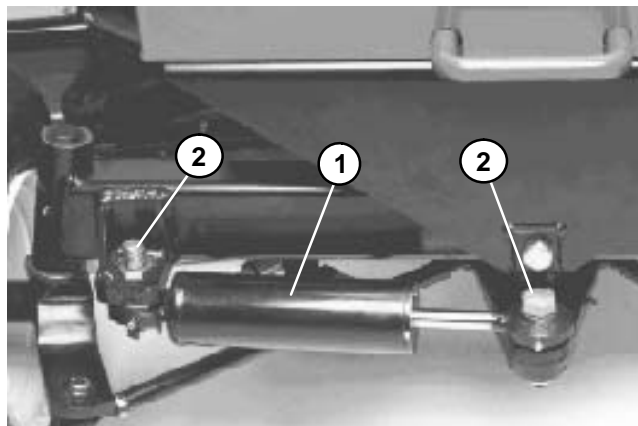

Figure 16
A. (2WD) Remove the lock nut and cap screw securing the rod end of the cylinder to the steering pivot (Fig. 16).
A. (2WD) Hold the steering cylinder in position and install the lock nut and cap screw securing the barrel end of the cylinder to the rear axle (Fig. 16).